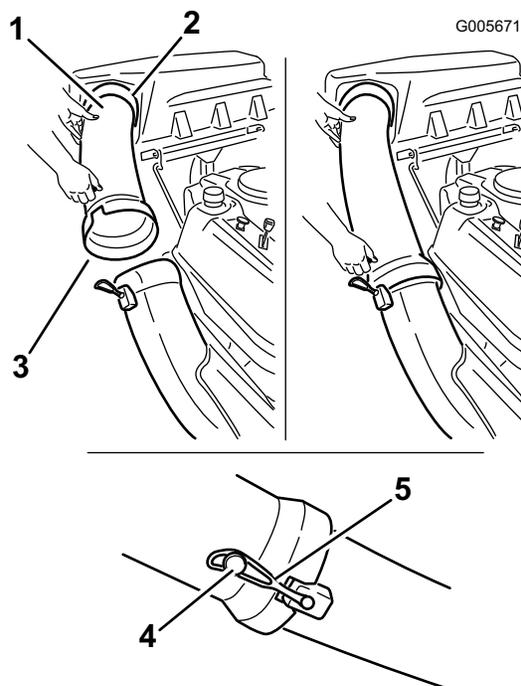

Figure 17
- Slide the curved end of the discharge tube into the opening in the bagger top (Figure 17).
- Slide the flared end of the discharge tube over the end of the chute. Move the rubber retaining strap on the chute snaps over the peg on the discharge tube to secure it (Figure 17).